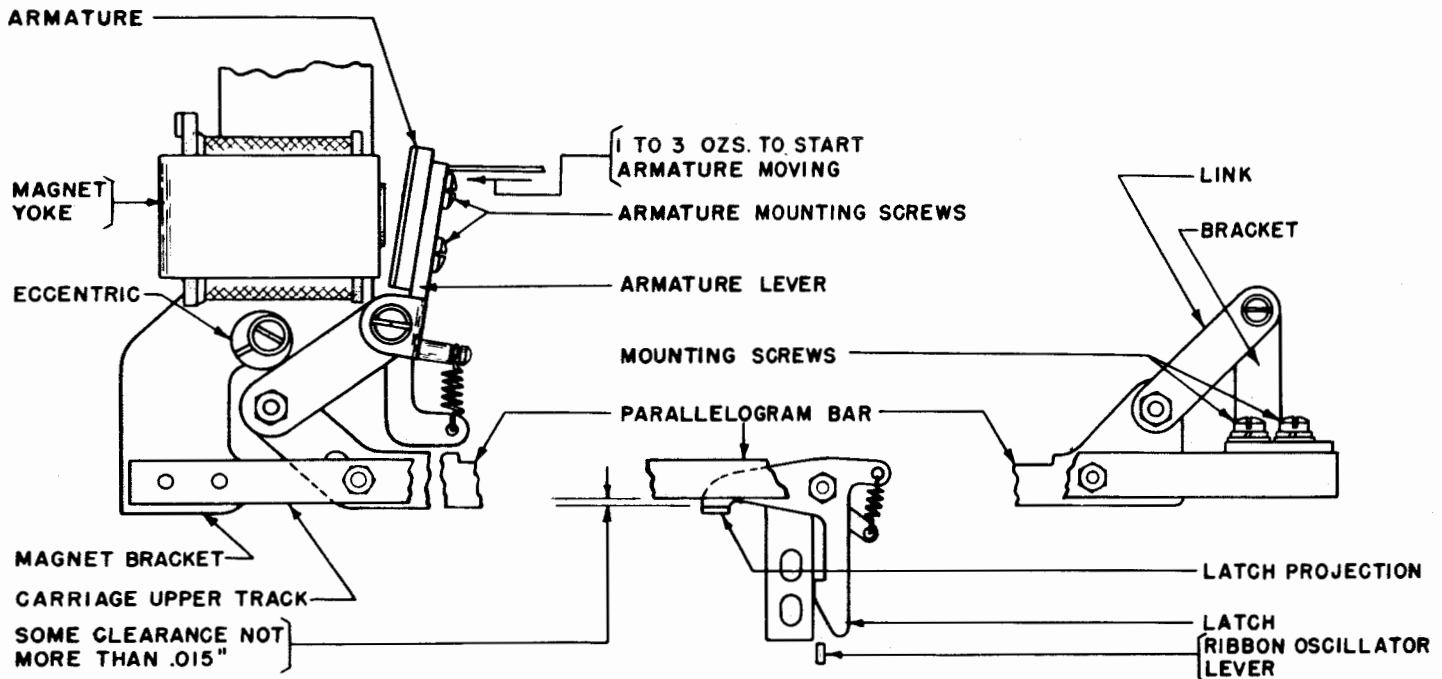

Figure 12
7.09 Armature-backstop: Set up any selection that prints and rotate the main shaft until the printing-bail is in its full-forward position. With the ribbon-oscillator lever in its unlatched position, and the magnet-armature in its released position resting against the eccentric backstop, there should be some clearance, maximum 0.015 inch, between the rear surface of the ribbon-oscillator-lever latch projection and the front edge of the parallelogram bar. Check this clearance with the typebar carriage at both ends of the typing unit. See Figure 12.
7.10 Armature-spring: Unhook the armature-spring and check the magnet-armature and parallelogram bar for binds. Rehook the spring. Apply the push-end of the scale to the armature just above the armature mounting screws. It should require minimum 1 ounce, maximum 3 ounces to start the armature moving. See Figure 12.